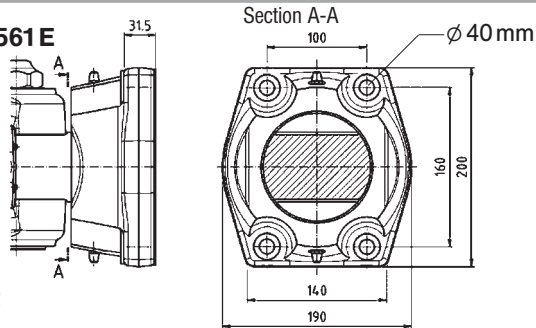

Fig. 2
- For RO★561E are reinforced cross member with a hole pattern G6 160 x 100 (see Fig. 2) with 4x $\phi$ 21 is required.